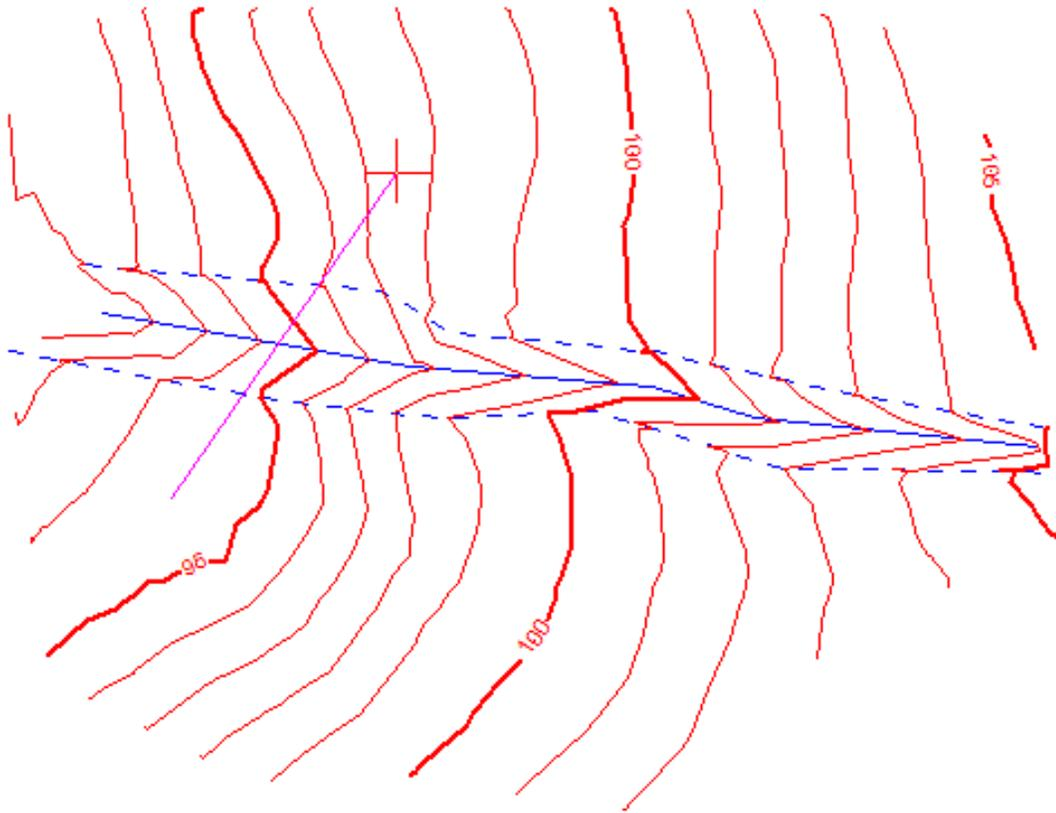

Figure 9-6: 2D Feature Across the Stream
9. Draw a feature with two points somewhat perpendicular to the stream (similar to that shown in Figure 9-6)